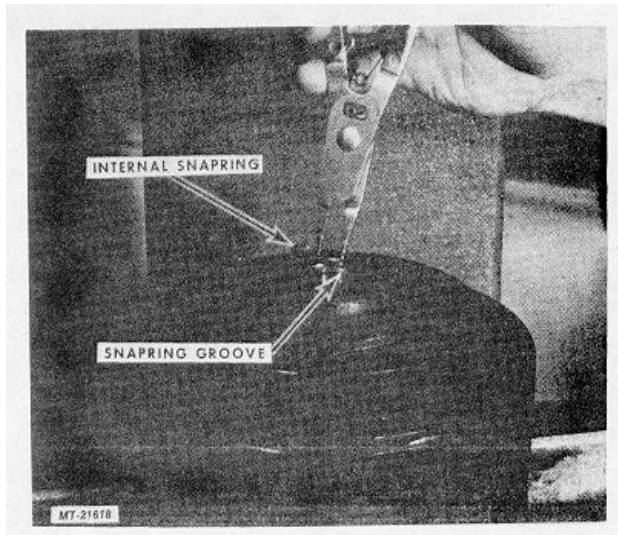

Fig. 88
51. Install Internal Snapping, Fig. 88.